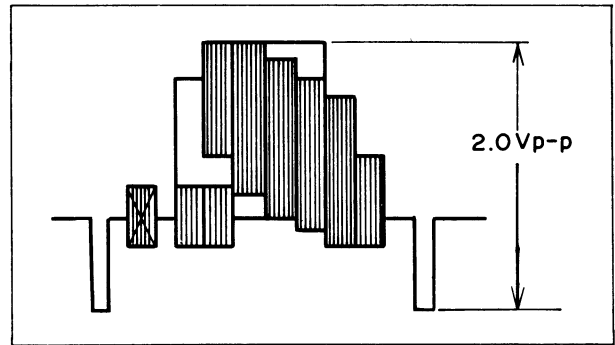

Fig. 5-45. Video output waveform
- Adjust R55 (Y P.B. Level) so that the output waveform becomes 2.0 volts p-p as shown in Fig. 5-45.